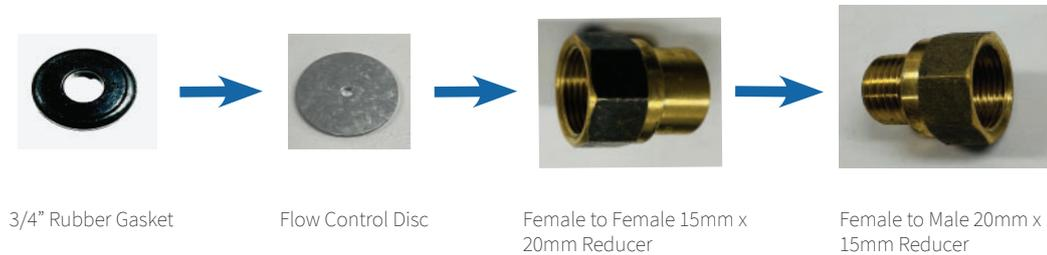

Fig. 3.17A Flow Control Disc installation
Insert the flow control disc and the rubber gasket into the Female-Female reducer and then connect the Female-Male reducer as shown in Fig. 3.17A below.
Step 7: Connect the third male pipe nipple threaded 3/4" to the pre assembled reducers from Fig. 3.17A.